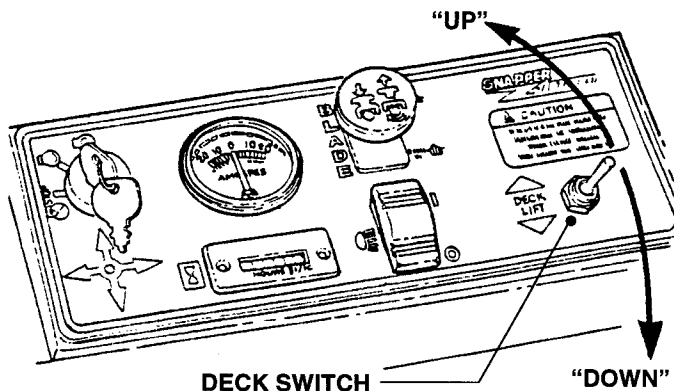

FIGURE 8.11
- A. The cutting height can be adjusted with the Switch located on the Right Side Console. Move Switch "UP" to raise Deck or move Switch "DOWN" to lower the Deck. See Figure 8.11.